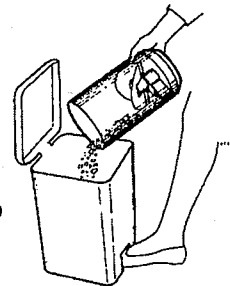

Figure 15b
11. Turn the Collection Bin upside down over a trash can. Make sure you empty all dirt and debris from above and below the Dirt Arrestor. To ensure that all the dirt spills out, tap the side of the Collection Bin gently against the edge of the trash can. (See Figure 15b.)